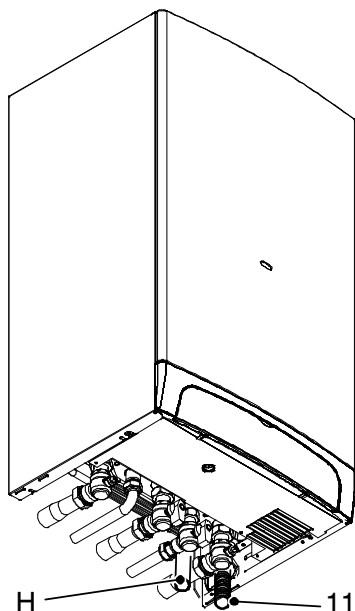

Fig. 6.4
- 8 Connect the pipe H (Fig. 6.4) from the pressure relief valve to the safety discharge pipework.
- 9 Fit the condensate drain 11 (Fig. 6.4) in the air brake connected to the drainage pipework. See also section 5.7 in this manual.